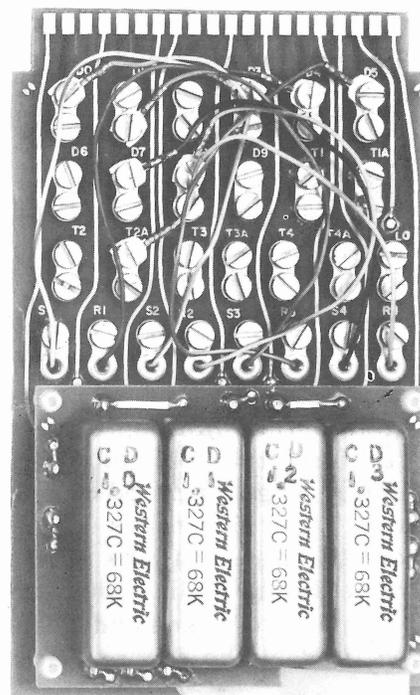

Fig. 3 — Code Output
1.05 The code output circuit is mounted on a 3.5- by 5.3-inch plug-in printed wiring board (Fig. 3). Code selection is accomplished by means of spade ended leads which are inserted under screw terminals. The circuit pack has a 4 response capacity. A maximum of 6 packs (24 responses) is permitted per 4.5-volt power supply. A response output is a 100-ms ground pulse that is supplied to the code relay located in a 4-wire terminating set. Provision is made for inserting a maximum of two code output boards on the basic panel, which also contains the common logic board mentioned in 1.04. Up to four additional code output boards may be installed in a second panel.